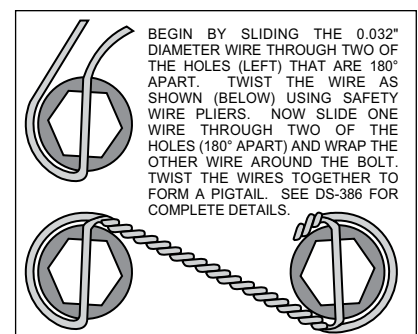

Figure 3. Safety Wire Diagram
- The caliper mount bracket assembly (1) should be installed first with clean, dry threads on the mounting bolts. Install the bracket from the rear side of the spindle by sliding the upper mounting bolt (4) through flat washer (5), and the upright into the upper bolt hole on the bracket. Attach the lower portion of the bracket by sliding bolt (6) through flat washer (7) and into the lower hole on the backside of the spindle. The bracket must tighten squarely against the inboard side of the spindle face plate/upright. Inspect for interference from casting irregularities, machining ridges, burrs, etc. If everything fits correctly, then remove the mounting bolts (4 and 6), coat threads with red *Loctite*® 271 and reinstall. Torque bolt (4) to 65 ft-lbs., and bolt (6) to 42 ft-lbs.
- Install wheel studs (8) into the hub (9). Torque to 77 ft-lb. **NOTE:** There are two lug patterns of five holes each in the hub (5 x 4.50 and 5 x 4.75). Make sure of the correct hole pattern for the wheel application before installing the studs into the hub.
- Pack the large inner bearing cone (10) with high temperature disc brake bearing grease (available from your local auto parts store) and install into the backside of the hub (9).
- Install the grease seal (11) into the backside of the hub (9).
- Pack the small outer bearing cone (17) with high temperature disc brake bearing grease and install into front side of the hub (9). Slide the hub assembly (9, 10, 11 and 17) onto the spindle. Secure using spindle washer (18), stock adjusting nut, and nut locking device. Adjust wheel bearing pre-load per Original Equipment Manufacturer (OEM) specifications.
- Install the O-ring (20) and the dust cap (19) into the hub (5). **NOTE:** O-ring (20) friction will not allow cap (19) to unscrew on its own.
- With the larger I.D. side of the rotor (12) facing away from the hat (13), bolt rotor (12) to hat (13) through the backside of the rotor using washers (14) and bolts (15). Using an alternating sequence, apply red *Loctite*® 271 to the threads and torque bolts to 155 in-lb. For an added measure of security, the bolts may be safety wired using standard 0.032 inch diameter stainless steel safety wire as shown in Figure 3. Please refer to Wilwood's data sheet DS-386 (available at www.wilwood.com/Pdf/DataSheets/ds386.pdf) for complete safety wire installation instructions.